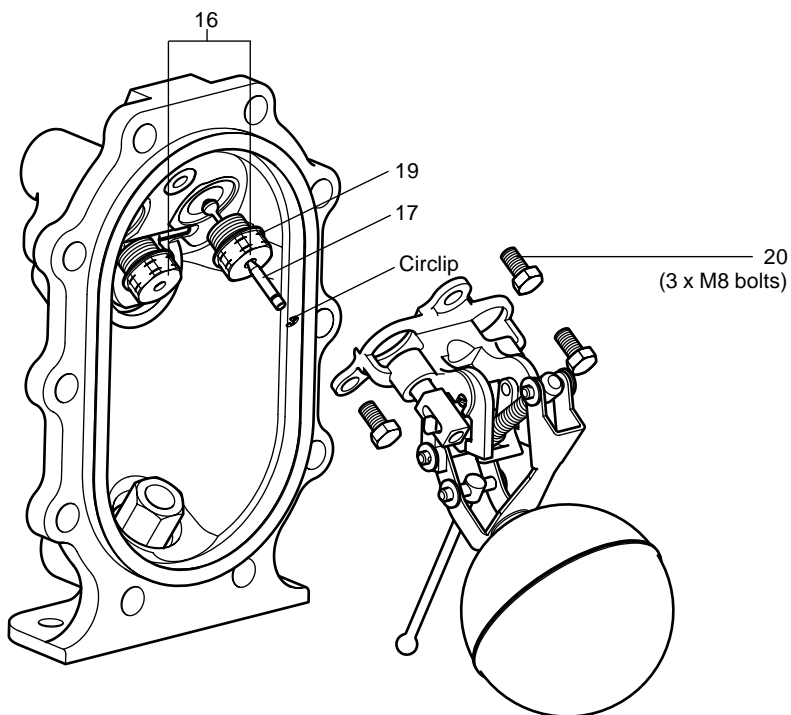
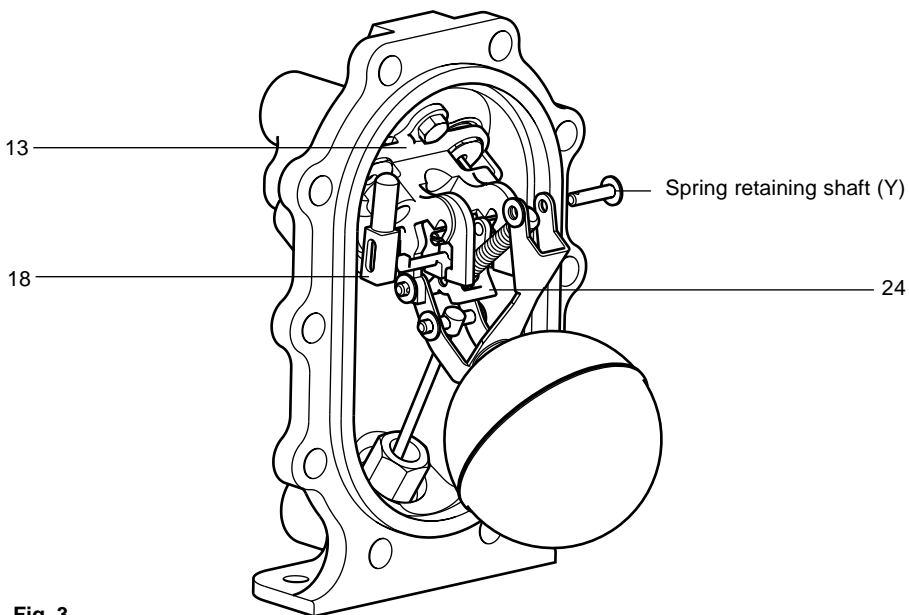

Fig. 2
Fig. 3
9. Both seats (items 16) are identical. Insert the replacement steam valve (item 17) according to Fig. 2, with it's sphere located in the threaded end of the new seat.
10. Place a new metal gasket (item 19) onto the threads of the seat before tightening into the cover.
15. To remove the exhaust valve (item 18), remove split pins, washers, and shaft (Y) from the top spring pivot point. (See Fig. 3).
17. Draw the actuator arm downwards within its slots until the whole spring and actuator arm assembly with the exhaust valve comes free. It may be necessary to slide the exhaust valve backwards against its internal spring to free it from the pump bracket guide (item 13).
18. Align the slot in the exhaust valve (item 18) with the tang of the actuator arm (item 24) (See Fig. 3).